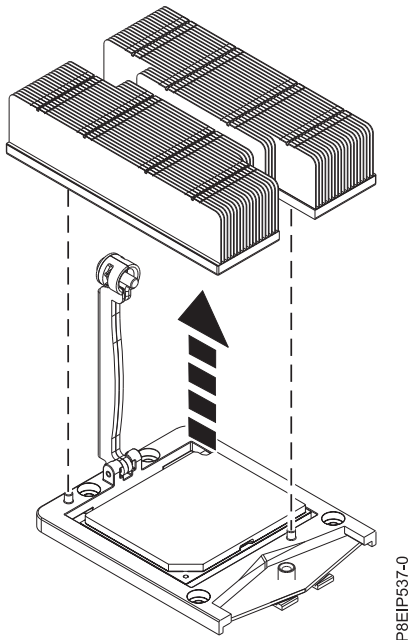

Figure 52. Removing the heat sink
4. Grip the heat sink and remove it by lifting straight up as shown in Figure 52.